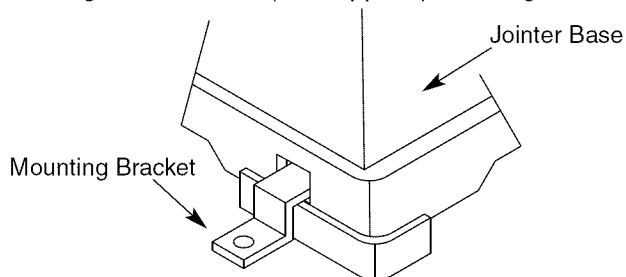

Figure 4 - Use Mounting Brackets to Secure Jointer
- Jointer/planer can be installed on workbench using bolts, lock washers and hex nuts (not supplied) or using wood screws (not supplied). See Figure 4.